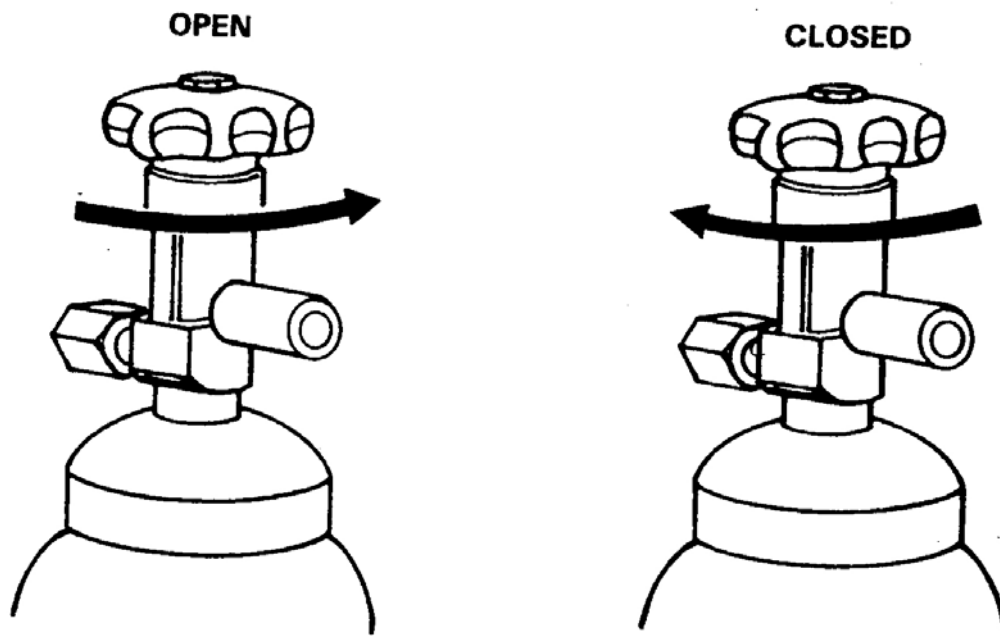

Figure 3-9. "Cracking" the cylinder.
e. **"Crack" the Cylinder.** "Crack" the cylinder by fitting a handwheel over the cylinder stem, quickly turning the cylinder handwheel counterclockwise to open the valve slightly, and immediately turning it back clockwise to close the valve (figure 3-9). The "cracking" procedure produces a loud hissing noise that can be frightening if not expected; therefore, it should be accomplished prior to moving the cylinder into the patient's room. "Cracking" the cylinder removes any dust particles that may have accumulated on the outlet.
(1) If the cylinder valve does not have a handwheel, fit a nonsparking cylinder wrench over the stem, turn counterclockwise, and immediately turn back clockwise to close the valve. "M" cylinders usually have handwheels; the smaller cylinders usually do not.
(2) If the cracking procedure does not result in a noisy rush of air through the valve, report the problem to your supervisor and obtain another cylinder.